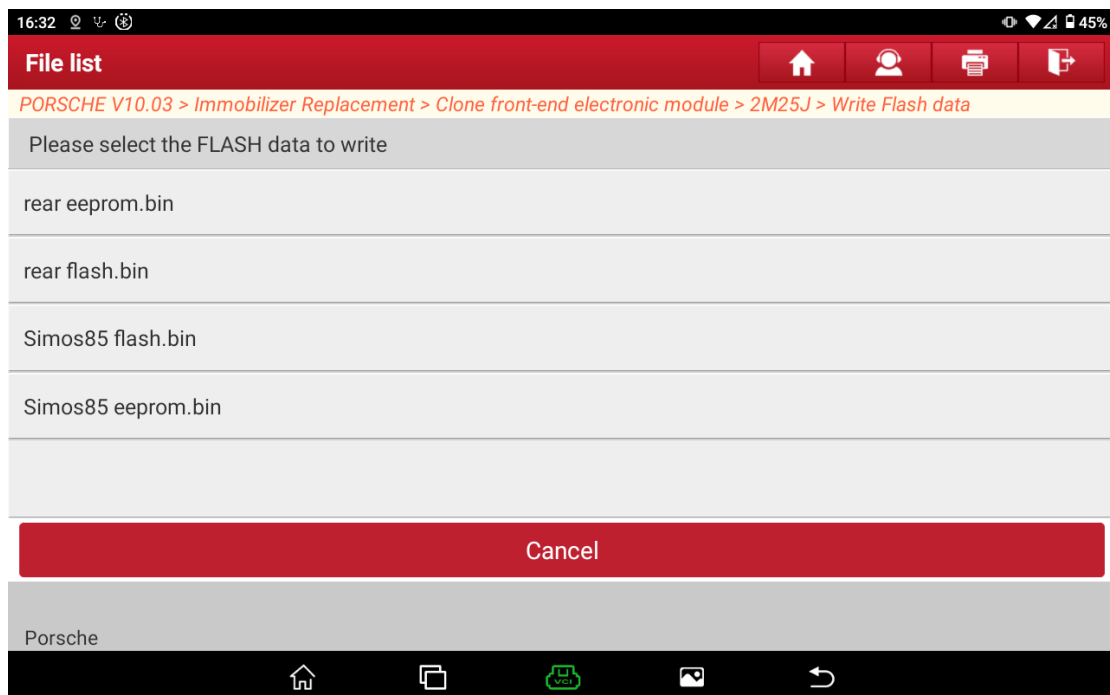
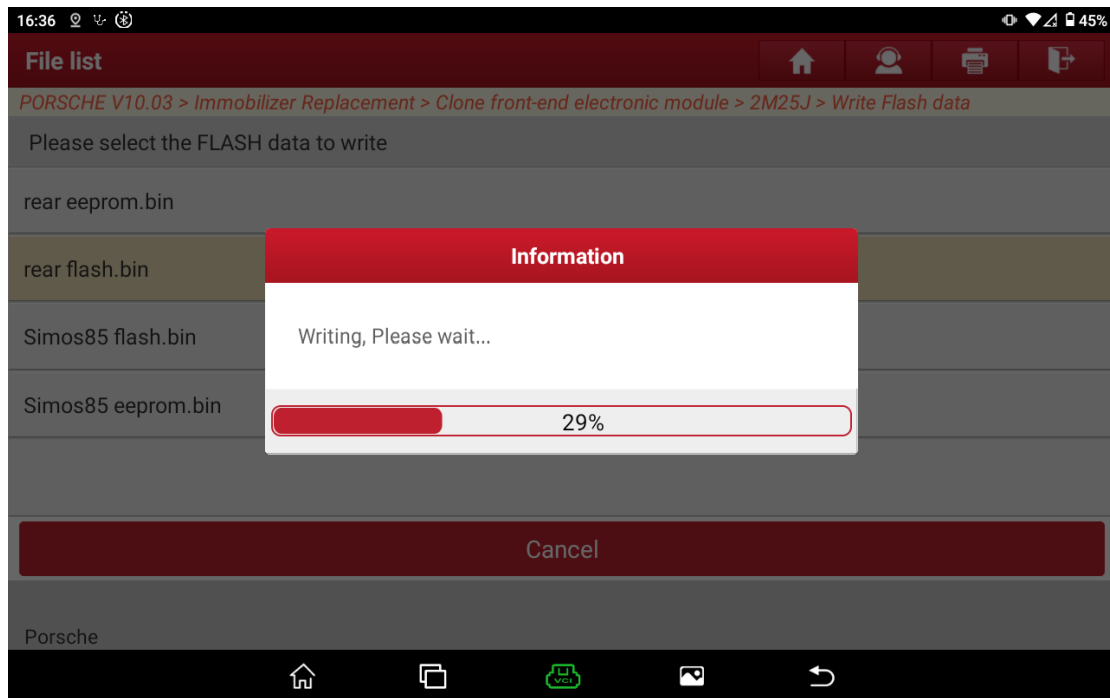

Figure 14
Figure 15
13. Choose [Write Flash data], and choose the FLASH data file of the original car module, as shown in Figure 14. Start writing, as shown in Figure 15.